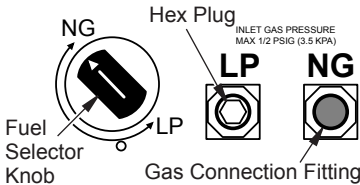

Figure 5 - Settings for Natural Gas Selection
2. For NATURAL GAS, press in knob using a flat screwdriver with a blade with thickness of a quarter and turn knob clockwise until the knob locks into the NG position (see Figure 5). Fuel selection device must be locked in the NG position. Do not operate heater between locked positions!
4. Remove hex plug (with wrench provided) from natural gas inlet of regulator and discard (see Figure 5). Install gas line into NG inlet of regulator. Use thread sealant to assure there are no leaks.